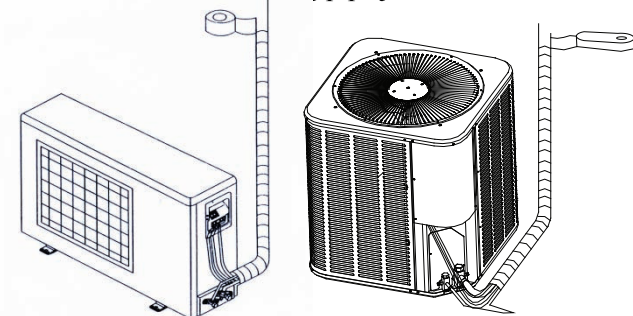

Fig. 11-19
1. To avoid generation of condensate on the connecting pipe and avoid leakage, the gas and liquid connecting pipes must be covered by thermal insulation materials, be bundled by adhesive tape, and be isolated from air. (refer to Fig. 11-19)
- (1) Use adhesive tape to bundle the connecting pipe and the cables together. To prevent condensate from
- (2) Use thermal insulation tape to wrap the pipes from the bottom of the outdoor unit to the upper end of the pipe where the pipe enters the wall. When wrapping thermal insulation tape, the later circle of tape must cover half of the front circle of tape (refer to Fig. 11-19).
- (3) Wrapped pipe must be fixed to wall by pipe clamps.